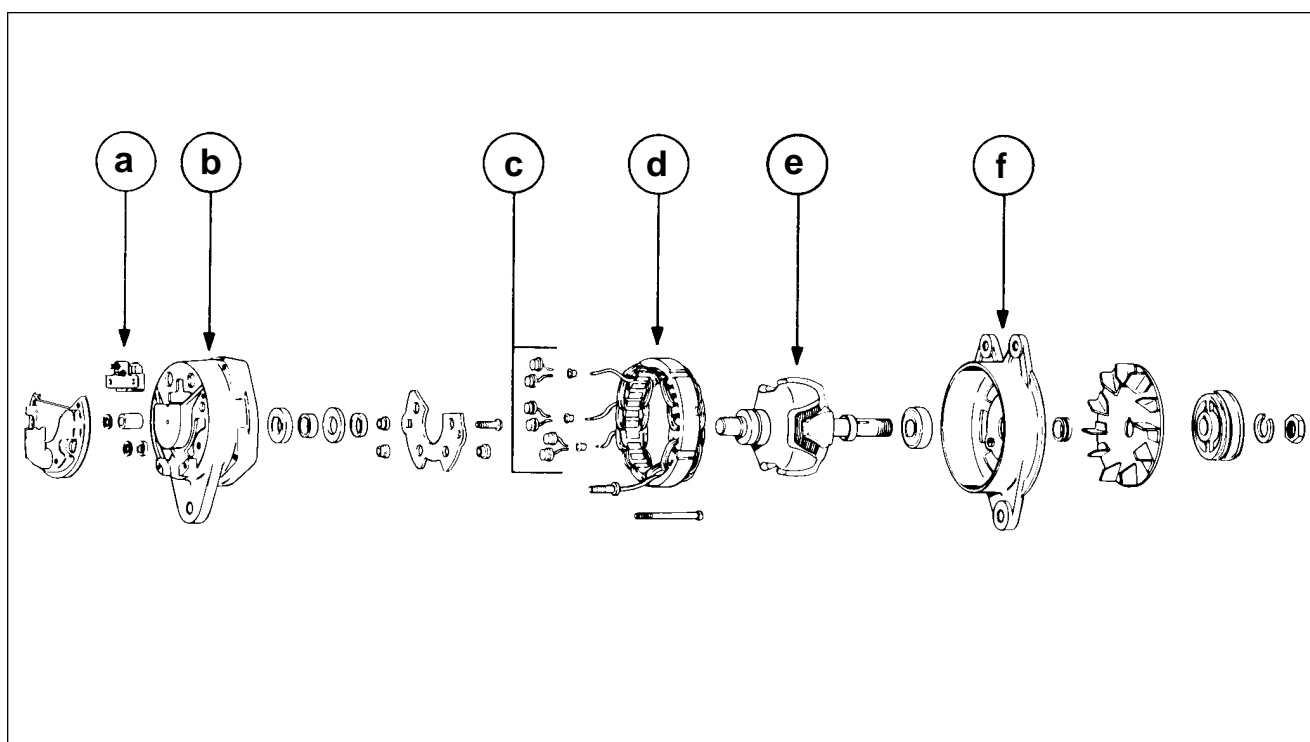

Figure 24-42. Exploded View of Electrosystems Alternator
1. Description Of Electrosystems Alternator (Refer to Figure 24-42.)